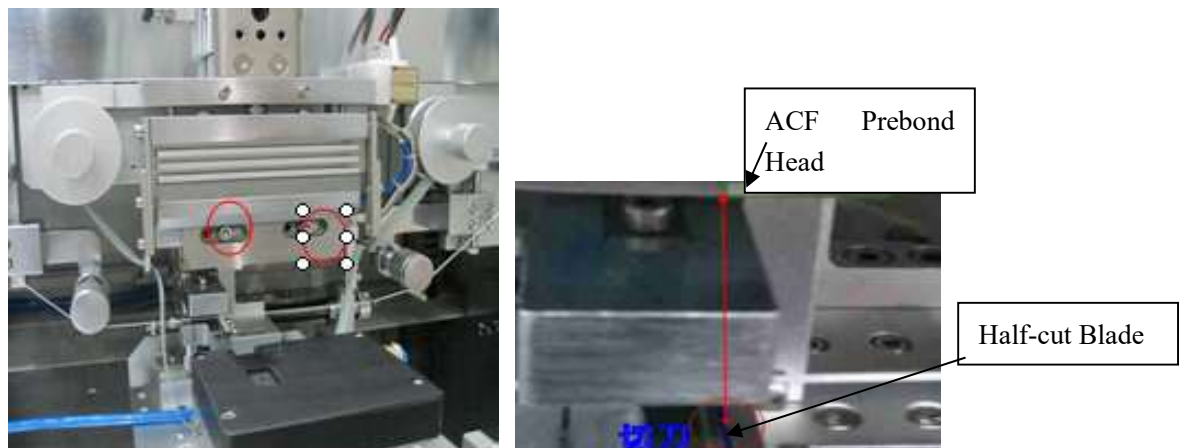

Figure 5.2
- 5.1 Replace the prebond head as required with the desired size (when the head is at room temperature) by removing the two bolts shown in figure 5.2 (and circled in red), removing and replacing the prebond head and then tighten the head by reinserting the two bolts. Align the left side of the head to be next to the half-cut prior to tightening the bolts.